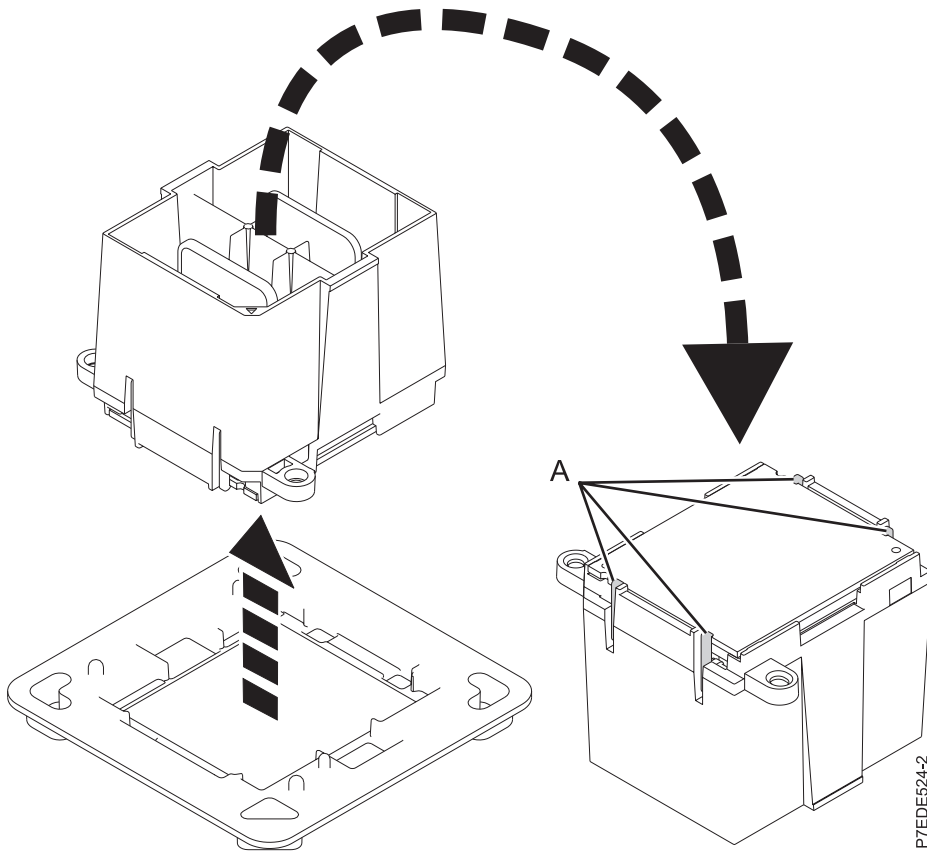

Figure 11. Preparing for system processor module installation
- b. Ensure that all four jaws (**A**) are firmly grabbing the system processor module, as shown in Figure 11.